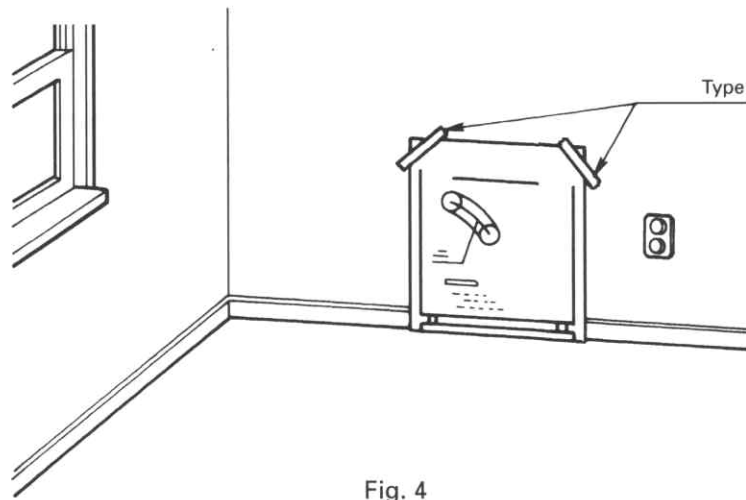

Fig. 4
3. For standard installation, use the template enclosed with the heater to position the hole for the flue pipe. Tack or tape template to the wall at the desired position (See Fig. 4)